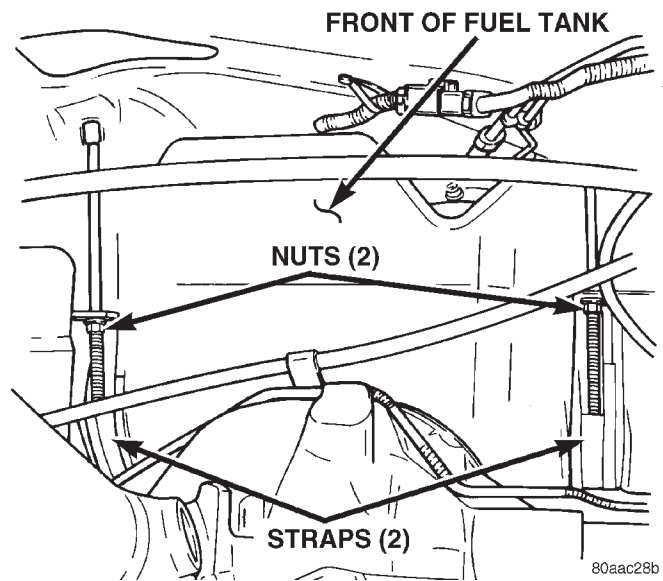

Fig. 36 Fuel Tank Mounting Straps/Nuts
- (12) Remove two fuel tank strap nuts (Fig. 36). Position both tank support straps away from tank.
- (13) Carefully lower right side of tank while feeding both fuel hoses through access hole in body. **Fuel**